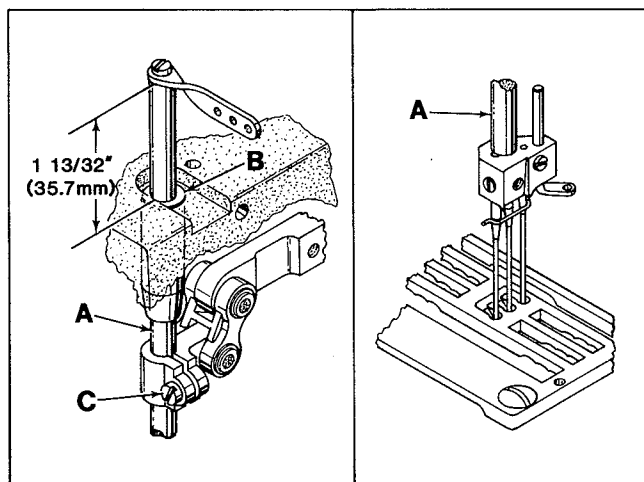
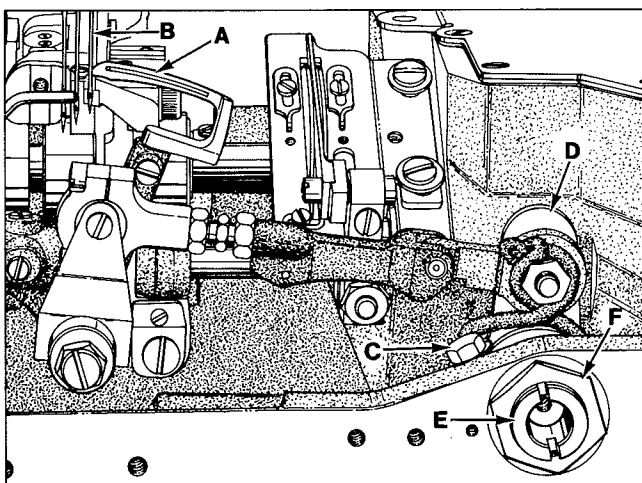
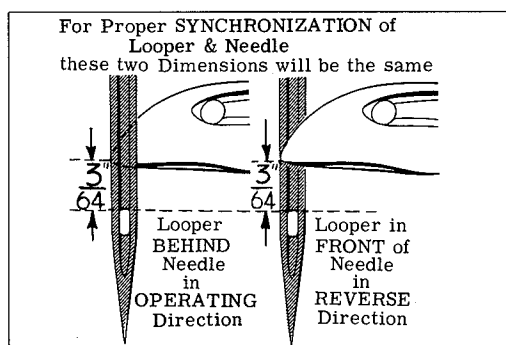

Fig. 3
Fig. 4
Fig. 5
Insert a new set of needles (type and size required). With needle bar (A, Fig. 3) at TOP of its stroke, check to ensure an approximate setting of $1 \frac{13}{32}$ inch (35.7mm) from top of needle bar to top of needle bar bushing (B). Adjustment can be made by loosening clamp screw (C) and moving needle bar up or down, re-tighten screw (C) TEMPORARILY. Turn handwheel to bring needle bar down to ensure that needles center in needle holes of throat plate as shown in Fig.3. Adjustment can be made by loosening screw (C) slightly, allowing needle bar to be turned as required, being careful not to change the temporary height setting. Tighten clamp screw. Re-check temporary height setting.
Insert looper into the looper rocker, pushing it all the way down and tighten screw against flat on shank of looper. Turn handwheel in the operating direction until the point of the looper (A, Fig. 4) moving to the left, is even with the left side of right needle (B). Note the height of the eye of the needle with respect to the looper point (See Fig. 5). Turn the handwheel in the reverse direction until the point of the looper again moving to the left, is even with the left side of right needle (See Fig. 5). If the height of the eye of the needle with respect to the looper point are the same, looper and needle motions are synchronized - a variation of .005 inch (.127mm) is allowable.
NOTE: The 3/64 inch (1.2mm) dimension shown in Fig. 5 is for final setting of needle bar height.
Loosen screw (C, Fig. 4) in looper drive lever (D). A rod of .146-40 thd. or Union Special Screw No. 22870 A can be threaded into the looper drive lever rocker shaft through the center of thrust adjusting screw (E). Tap or pull slightly as required to position shaft for proper synchronization. Tighten screw (C) securely and remove rod or screw used to position shaft. Loosen lock nut (F) and TORQUE thrust adjusting screw (E) to 6 in. lbs. (7cm/kg); re-tighten lock nut (F) securely.
Turn handwheel in operating direction until point of looper is flush with the left side of right needle. Final setting is 3/64 inch (1.2mm) between top of needle's eye and bottom surface of looper (See Fig. 5). If adjustment is required, loosen screw (C, Fig. 3) move needle bar CAREFULLY up or down, not to disturb alignment of same. Retighten screw (C) and check to ensure that needles center in needle holes of throat plate.